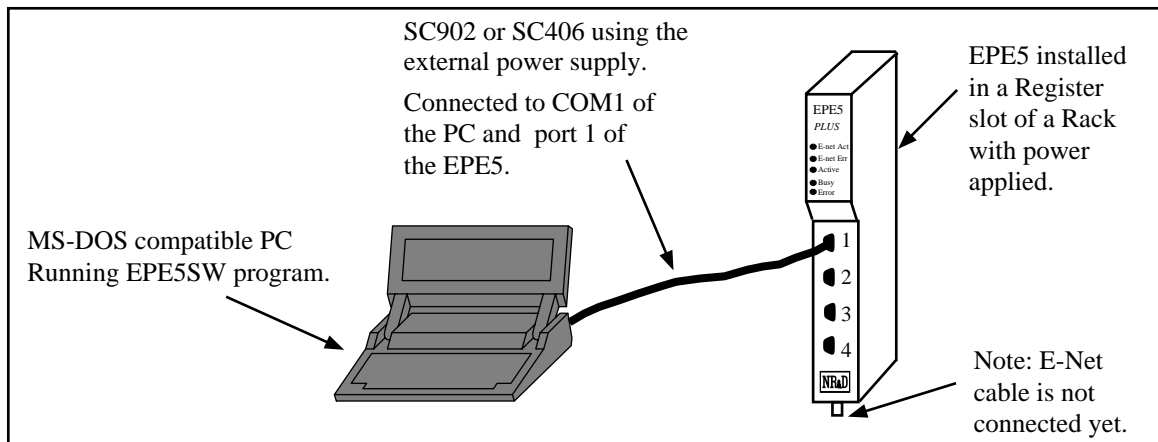

Figure 2-3 EPE5 Initial Configuration Setup
- 1 Connect the personal computer to the EPE5 using a RS-422 connection. The EPE5 should receive its initial configuration by direct connection from an MS/DOS® personal computer COM: port (See Figure 2-3). Niobrara's SC902 (or SC406) RS-232 to RS-422 converter cable can be used to make this connection. Ports 1-4 provide full handshaking of the RTS/CTS pins and do not provide power for the smart cable. **The external power supply for the Smart Cable must be used.** The
If an error occurs in communicating with the EPE5, an error window will open in the lower right corner. F10 will clear the error. Check the COM port setting, route setting, and your cabling. For a direct connection as in Figure 2-3, the default settings should work. For more information about the setup parameters of EPE5SW see page 150.